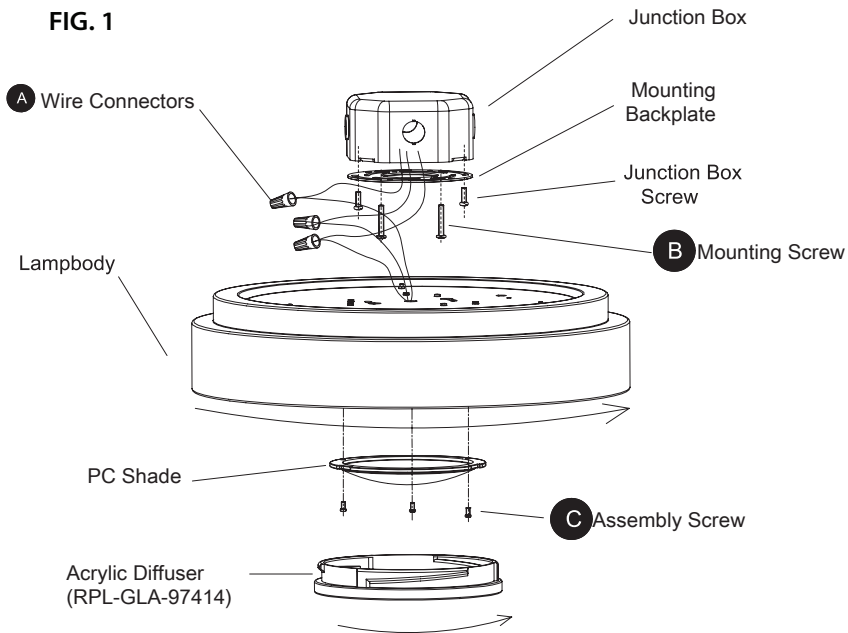

FIG.3 DIMMER WIRING
(OPTIONAL) DIMMER WIRING (Fig. 3)
8. To utilize 0-10V dimming feature connect the purple (dim+) and pink or gray (dim-) wires from the dimming module to controller. From the dimming module connect the black (live) or white (neutral) wires to the power sources from the junction box and the black (output-) and blue (output+) wires to the fixture see (Fig.3) below.